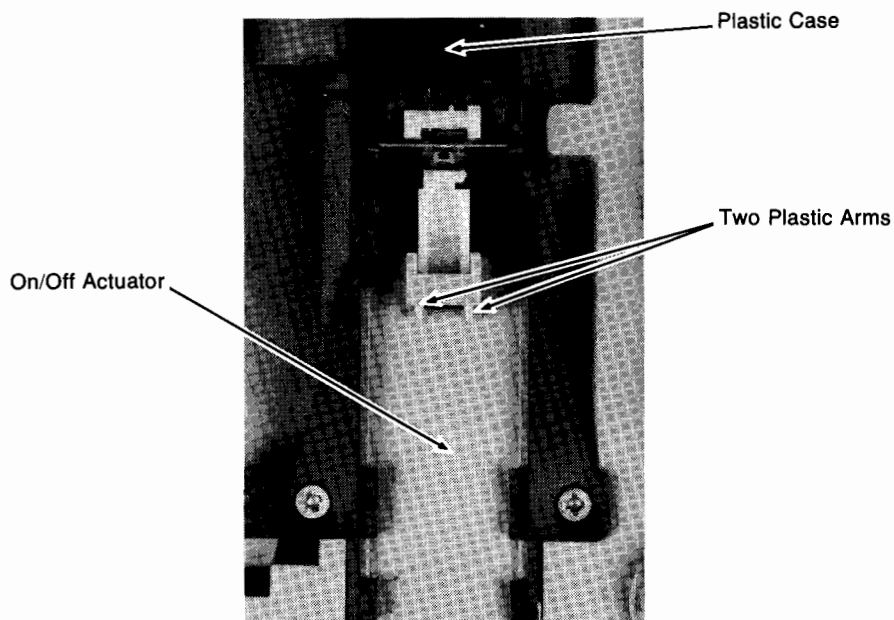

Figure 4-20. On/Off Power Switch Removal
2. Using pliers, squeeze the two plastic arms together (see Figure 4-20).